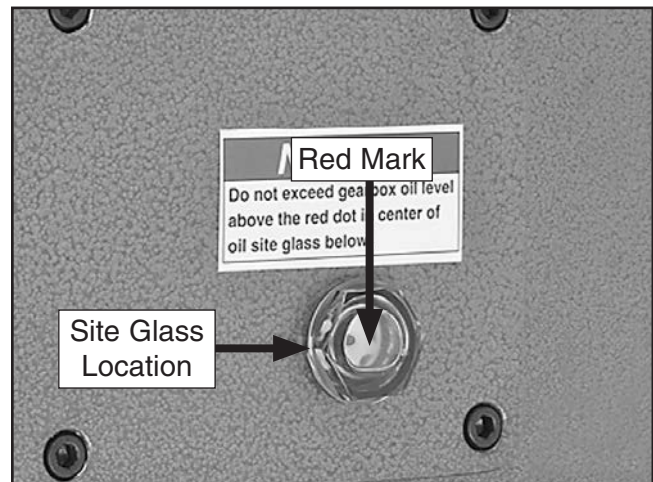

Figure 36. Site glass location.
4. Fill the headstock with oil to the red mark on the site glass (see **Figure 36**).